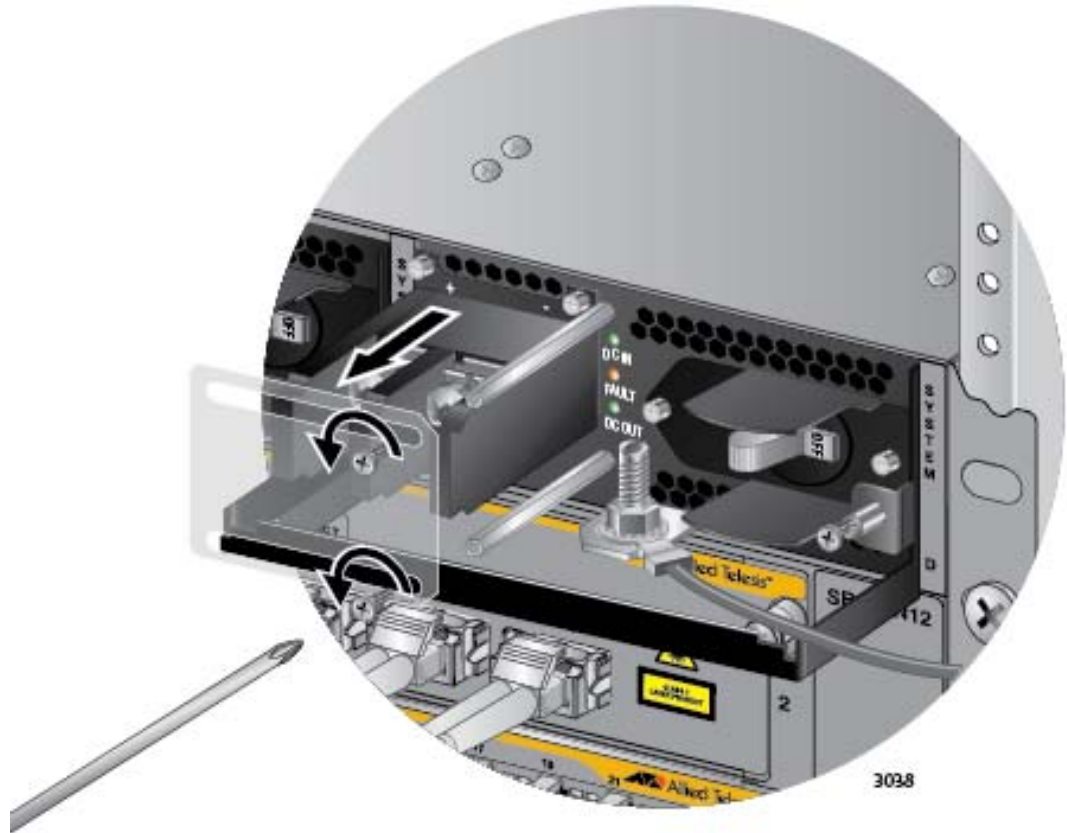

Figure 116. Removing the Plastic Cover
- Using a #1 Phillips-head screwdriver, remove the two screws that secure the plastic cover over the positive and negative terminals and remove the plastic cover from the power supply, as shown in Figure 116. You may need to lift the locking handle slightly to access the bottom screw.